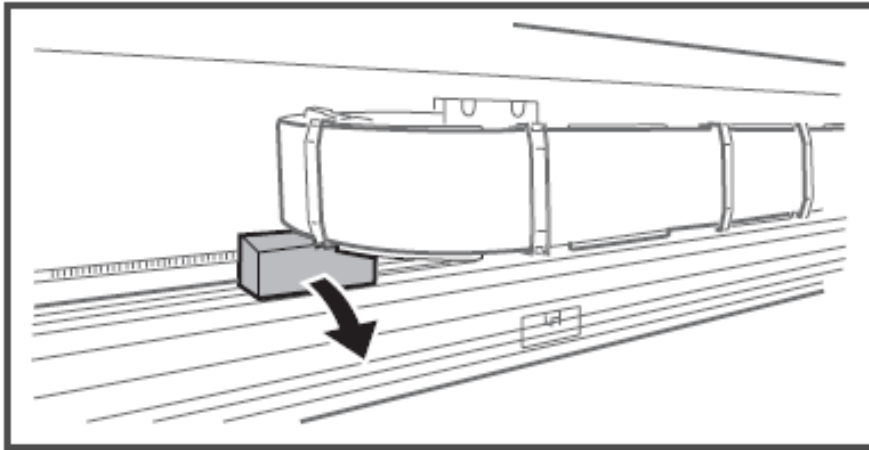

Figure 15
17. Remove the protective material from the steel bar. See Figure 15.